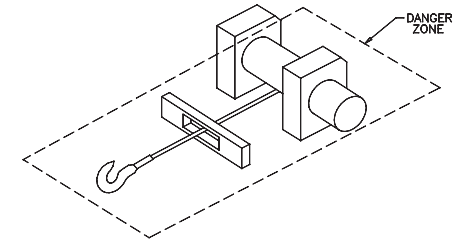

Fig. 1
3. Beware of the danger zone. The danger zone is the area of the rotating rope drum, the fairlead (if fitted), the rope, the hook, and motor (see Fig 1.) First relieve tension on load then disconnect the control switch before putting hands in or around the danger zone. Disconnect power leads to battery before working in or around drum.